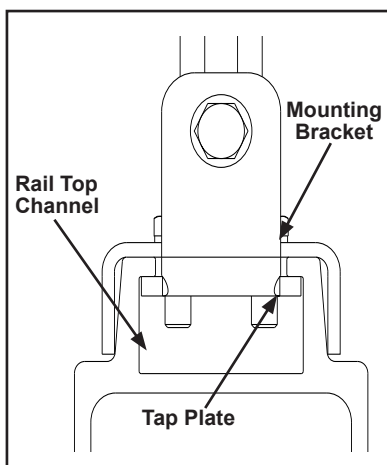

Figure 3-6
- Step 3. Remove cross bolts. Slide rail mounting bracket on top of bracket channel and tap plate into bracket channel at top of runway rail. Position per system layout. See Figure 3-6.